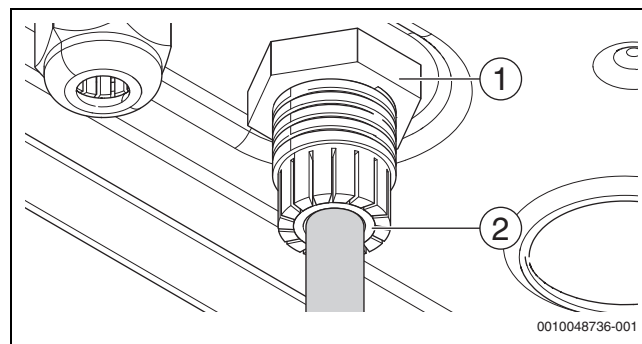

Fig. 53 Seal into the body
- Detach sealing nut (→ Figure 53, [1]).
- Remove sealing grommet (→ Figure 53, [2]).
- Re-attach the sealing nut (→ Figure 53, [2]).